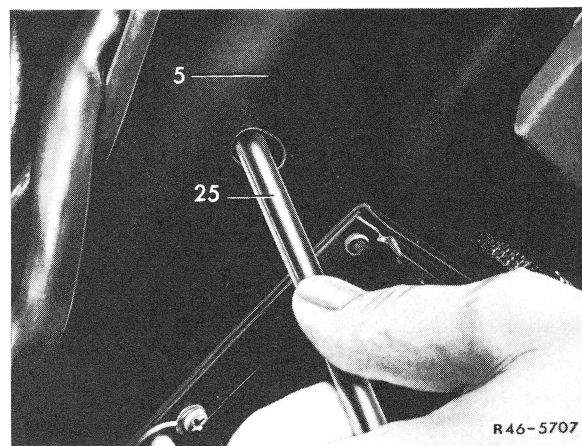
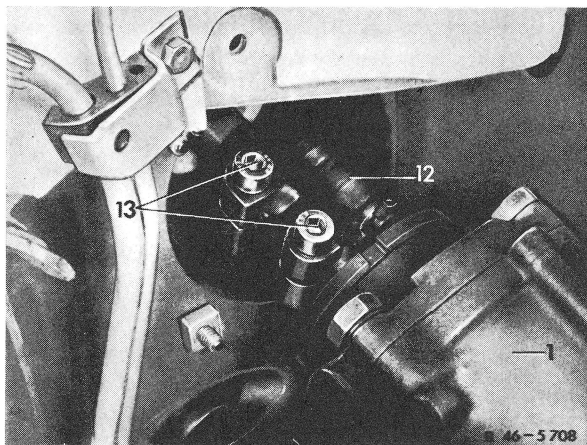

Fig. 7
Fig. 9
Assembly pin (Fig. 7)	self-made
**4** Unscrew lower hex. socket screw (13) from steering coupling (12) (Fig. 9).
**16** Check longitudinal adjustment of steering spindle through bore in jacket tube (5). For this purpose, insert assembly pin (25) into check bore of steering spindle (Fig. 7).
**17** Unscrew center position control bolt, screw closing plug into steering case using a new copper sealing ring. Remove assembly pin (25) from steering spindle (Fig. 7). Screw hex. socket bolt (13) into lower flange of steering coupling (12) and tighten. Tightening torque 25 Nm (2.5 kpm) – reference value (Fig. 9).